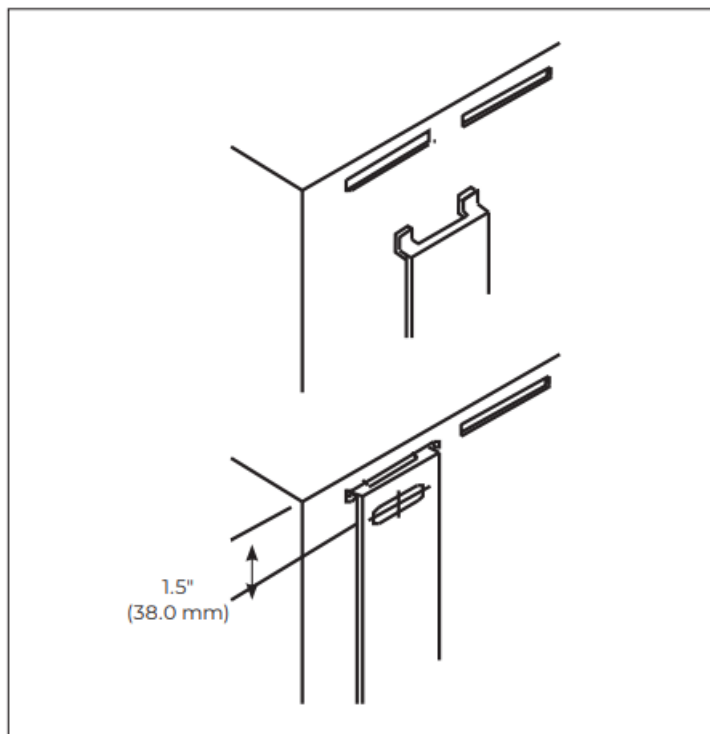
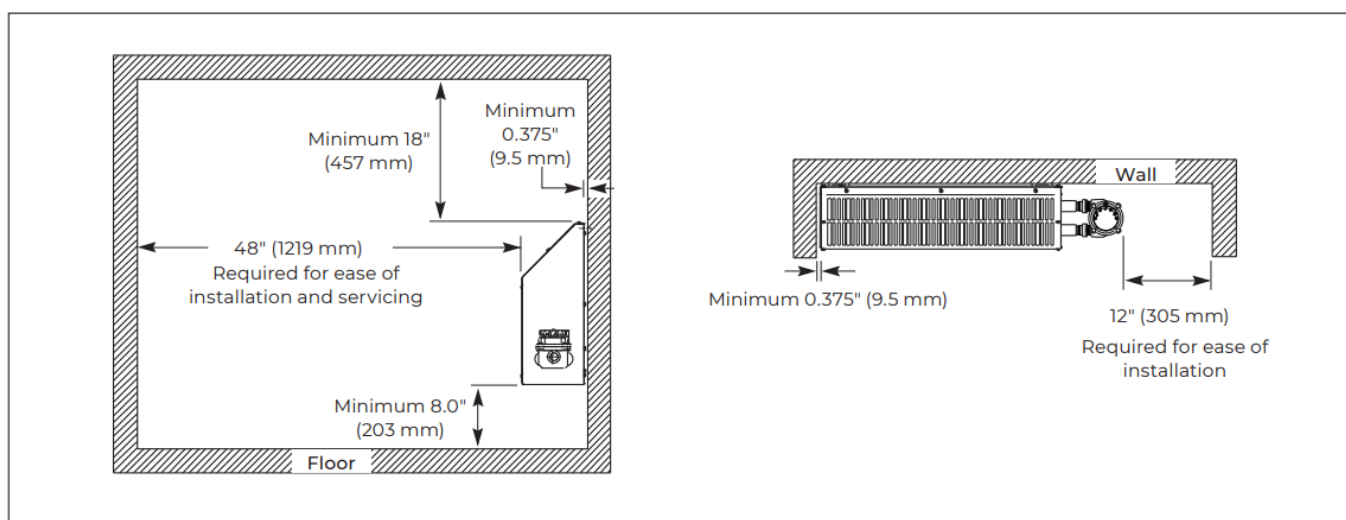

Figure 1
Figure 5 – Installation Clearances
3. Secure mounting brackets to vertical surface with the top mounting hole 1.5" (38 mm) below the desired top surface height (Figure 1, page 4). Refer to Figure 3, page 5, Figure 4 and Figure 5, page 4 for physical dimensions and Figure 5, page 6 for required installation clearances. Mounting brackets are to be spaced to match the slots in the rear panel of heater cabinet.